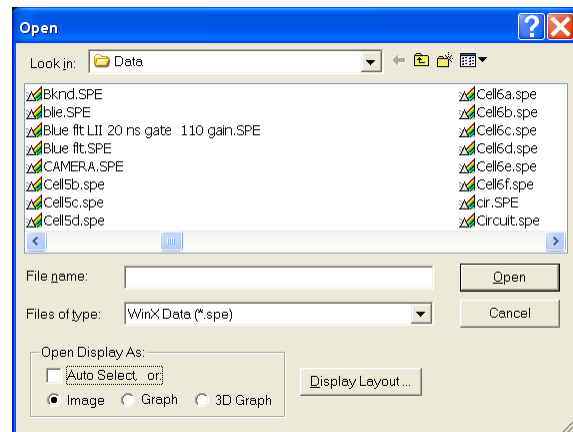

Figure 49. Open dialog
1. Select **Open** from the **File** menu. The **File Open** dialog will appear (Figure 49).
2. Open the directory containing the data files. Clicking on the button at the right of the **Look In** field opens a browser function, allowing you to quickly and easily access the correct folder. As shown in Figure 49, the data files will be listed below.